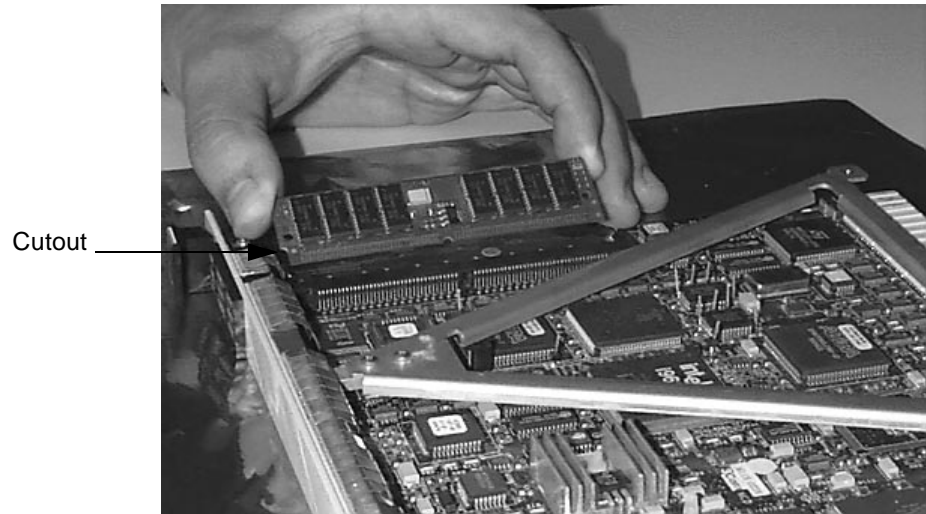

Figure 2-9 Inserting the 32MB Memory SIMM
- 4 Insert the SIMM with its gold connector into the black connector at a 45 degree angle (Figure 2-9).